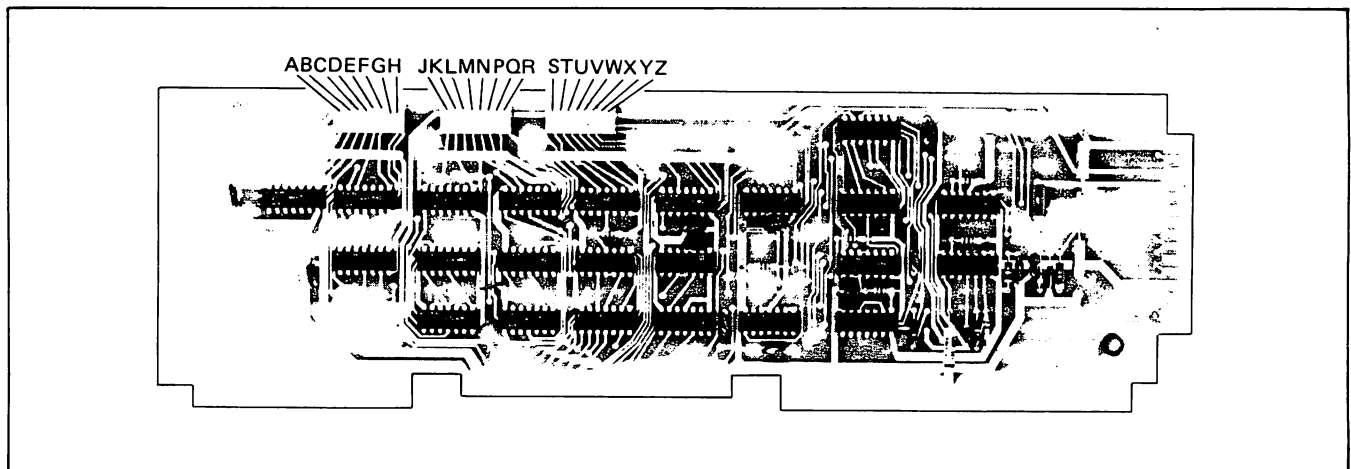

Figure 7-15. Keyboard Interface PCA Strapping Options
3. ( ) Using figure 7-15, 7-16, 7-17, or 7-18 (as applicable) and table 7-5, 7-6, 7-7, 7-8, or 7-9 (as applicable), select the desired operating functions, and set the switches to the appropriate positions. (More information on configuration is given in Section V.)